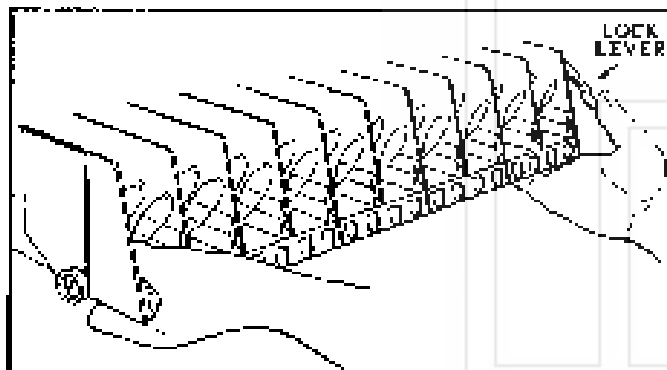

Figure 1. MOVING SHELF TO LOADING POSITION.
4. **LOADING SNACK SHELVES:** Open door to full open position, push down on white plastic lock lever (Figure 1) on right side panel by shelf to unlock shelf, holding lever down. Grasp the shelf slightly and pull forward until shelf reaches its stop. The shelves tilt down (do not avoid to make loading easier). Only one product shelf should be in the loading position at a time. When returning a shelf, be sure the shelf is in its full home or end position. Begin loading with the top shelf. Move in to the loading position. The height spacing for items is greatest in this shelf and the tallest bagged items should be placed there. Soft items, such as pasty, pies, etc., should be placed in the lowest snack shelf, making the drop distance as short as possible.